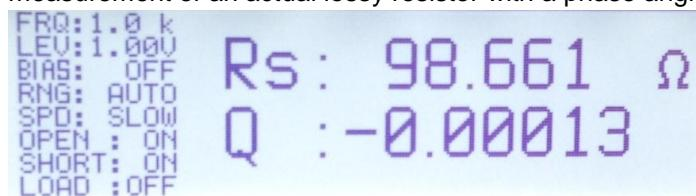

Fig. 2-6: Display of resistance and quality for a resistor at 1 kHz.
- The correct measurement function is set automatically in Auto mode, which is enabled by default (see Fig. 2-8 and Section 2.1.2.1). In this case, R-Q is displayed, i.e. resistance R and quality Q (Fig. 2-6). Other parameters such as impedance and phase angle are displayed by pressing a key and selecting the appropriate measurement functions as described in the manual. In the case of an ideal resistor, the phase angle is 0°. Fig. 2-7 shows the measurement of an actual lossy resistor with a phase angle of 0.0152°.